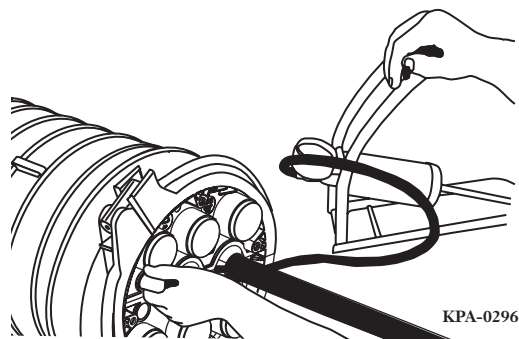

Figure 57 — Pressurize Closure
- Step 1** Inject 12 to 14 psi of air into the closure using a hand pump (Figure 57). Check pressure regularly.